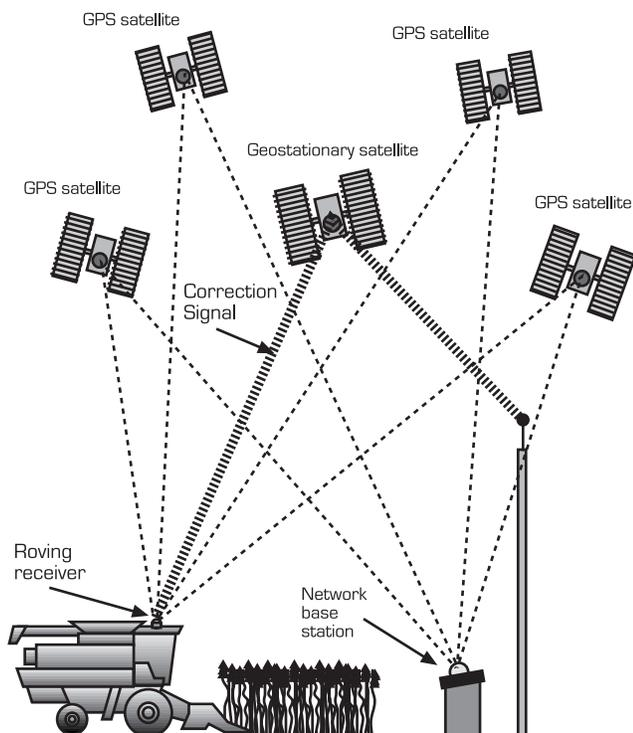

Figure 4. Differential GPS Systems.
**How do we increase GPS accuracy?** In agricultural applications, the most common way to counteract GPS errors is by using Differential GPS or DGPS. In a DGPS system, a GPS receiver is placed at an accurately known location (Figure 4). This base station receiver will calculate the error between its actual location and the location computed from the GPS signals. The error information is communicated to the rover receiver being used in the field, which is then able to correct the